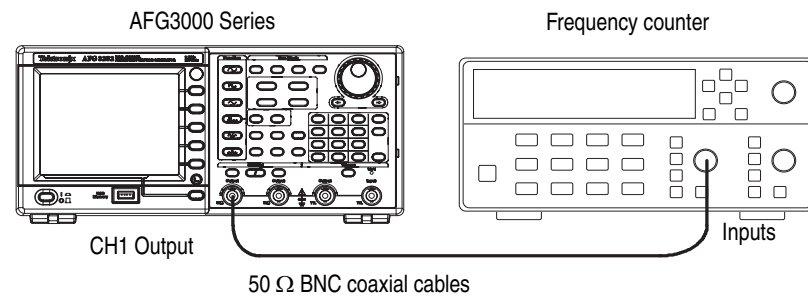

Figure 4-1: Frequency/Period tests
1. Connect the arbitrary/function generator to the frequency counter as shown in Figure 4-1.